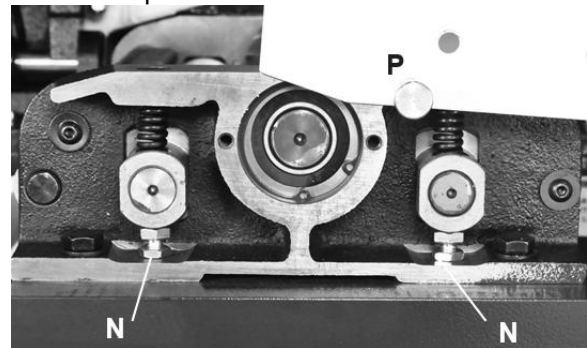

Figure 20
3. With the jointer table elevated, remove the Front Guard (A) and Rear Guard (B) see figure 19 to access the bolts for adjusting the feed rollers' pressure figure 20
NOTE: The Front Guard, with the removal of its 2 screws (#52), can be rotated out of the way, leaving the dust collector's spring-loaded Locating Pin (#51, P) intact FIG. 20. The Rear Guard can be removed once the 2 locating screws are detached by lowering the jointer table and then removing the fence assembly.
6. Beneath the Cutter block Brackets, the Tightening Screws (N) secure the compression Springs onto the brass Shaft Sleeves. Utilize a wrench to adjust the feed rollers via the bottom Hex Bolts Fig. 20.